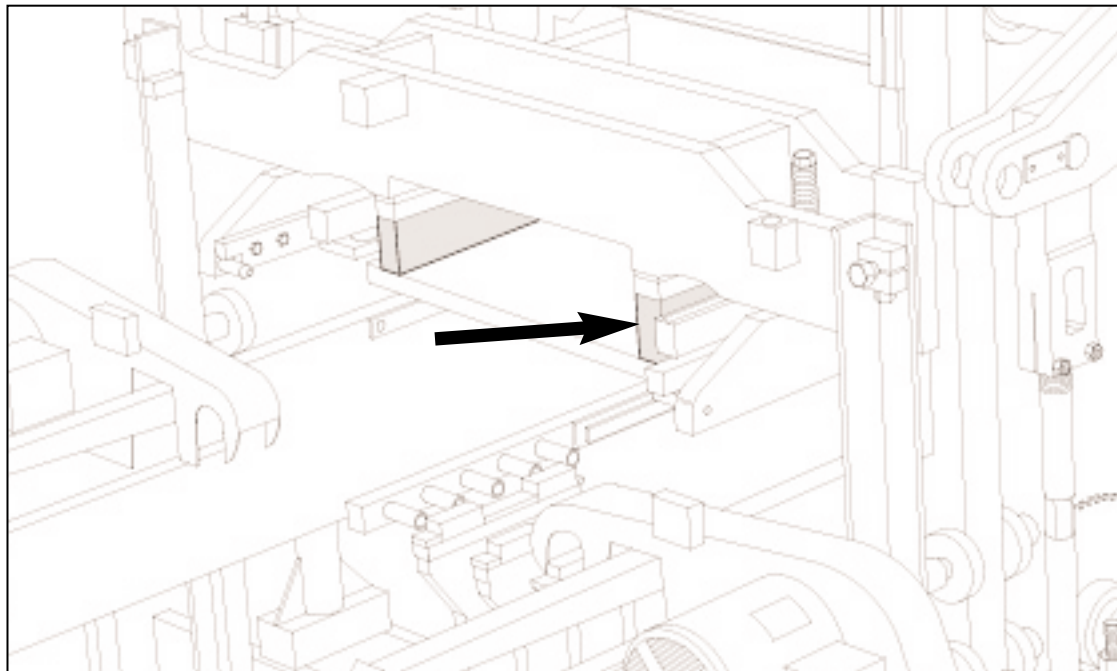

Figure 18.53 127mm [5.0"] BLOCKING UNDER STRIPPER HEAD FRAME.
- 18.3.13 The ULTRAPAC II is now ready for the installation of the mold assembly. Follow the directions for installing an attachment in section 5 of this manual. When installing the stripper head, use **317mm [12.5"]** long bolts **#087159** and insert **102mm [4.0]** of blocking in addition to the **38mm [1 1/2"]** blocks already affixed to the stripper head frame (figure 18.53).